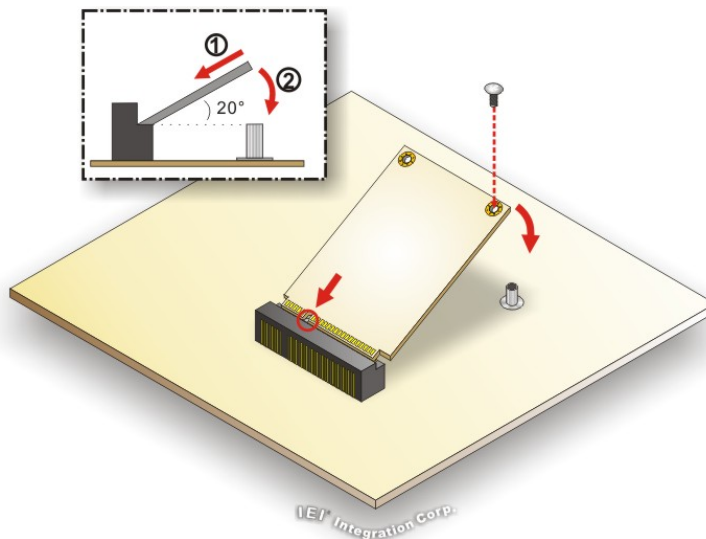

Figure 3-4: mSATA Module Installation
- Step 5:** Secure the mSATA module with the retention screw. Push the other end of the mSATA module down and secure the module with the previously removed retention screw (**Figure 3-4**).